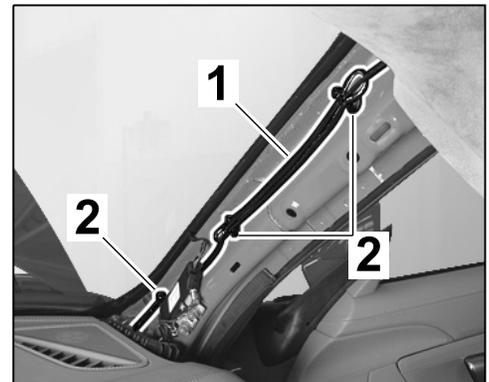

Figure 9
- 2.3.5 Pull GPS antenna line \Rightarrow *Figure 9 -1-* back and fold it to form a loop close to the A-pillar. Secure GPS antenna line using the two upper tie-wraps.